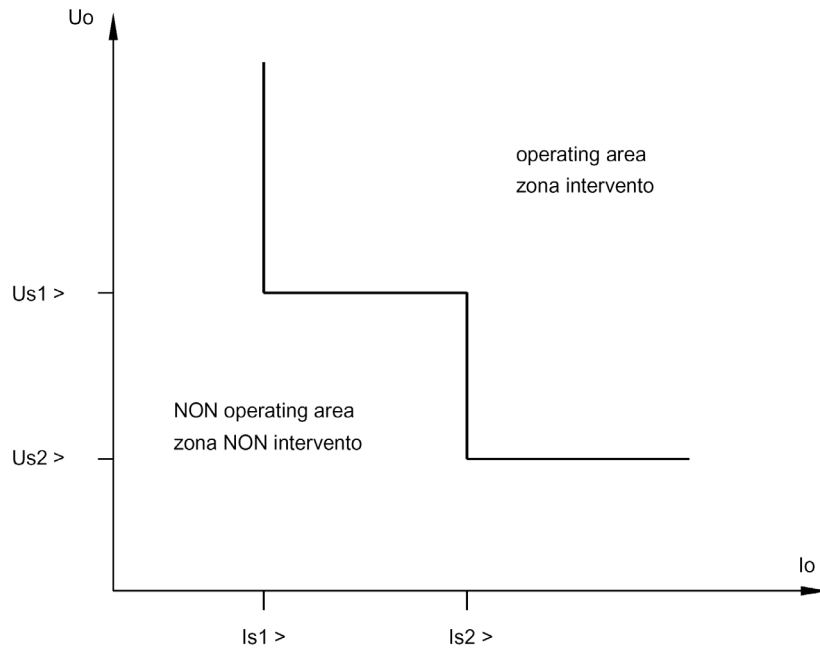

Figure 1
- DIRECTIONAL with NON operating zone around the origin (see fig. 1)